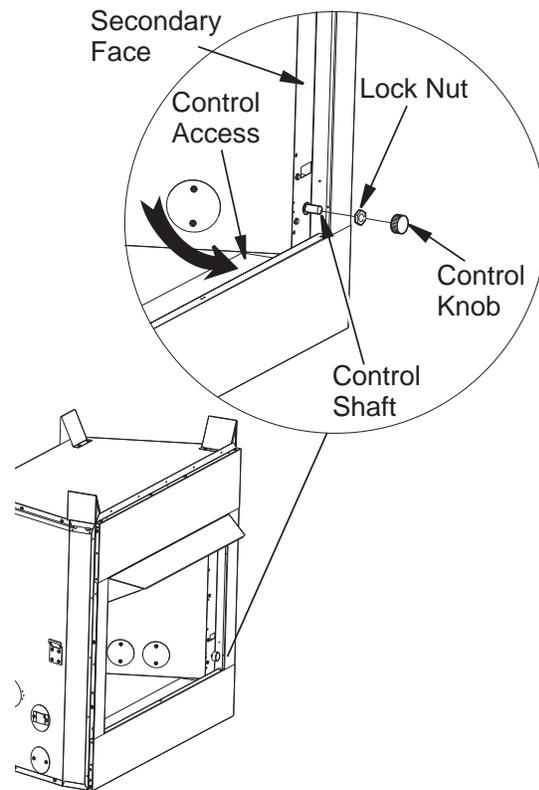

Figure 17 - Attaching Speed Control (Model May Vary From Illustration)
3. Remove metal lock nut from plastic control shaft by turning lock nut with pliers counter clockwise. Mount speed control box by placing plastic control shaft through hole on lower portion of the left or right side of secondary face by sliding control box down through large hole in firebox bottom and up behind firebox side (see **Figure 17**). Secure speed control to side face with previously removed lock nut by pushing and turning lock nut clockwise with pliers until it is tight against side face of fireplace (see **Figure 17**).
4. Place control knob, provided, onto control shaft (see **Figure 17**).